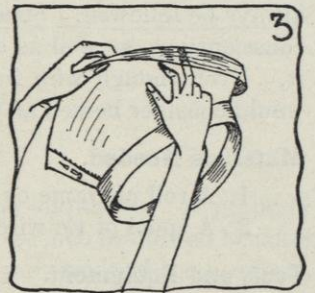

FIG. 3.
- (4) Stretch material to obtain particular curves or pleats. You may moisten or steam it if necessary.
- (5) "Thimble" curves in brim, if necessary, that is, gently rub your finger, with a thimble on it, along the desired line to get the desired curve (see Figure 3).
- d. Proceed to make your brim, following your list of sections approved, as shown in Section *a*, using as many of the Sections (1) through (5) in Section *c*, as you need.
- e. Wire edge, either with lace wire, if brim is to be covered, or with stiff frame wire for a model frame, using buttonhole stitches (see Figure 3 of Job 24, page 101).